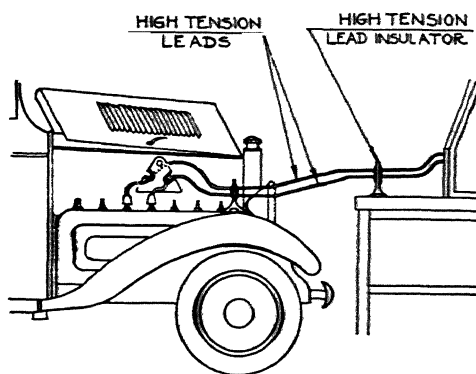

Fig. 6. High-Tension Lead Connections to Engine
**Using High-Tension Test Leads.** When using the high-tension testing equipment never permit the high-tension leads to lie side by side but always separate them with high-tension insulators, so as to have the high-tension leads maintained at least  $2\frac{1}{2}$  inches apart. This is illustrated in Fig. 6.